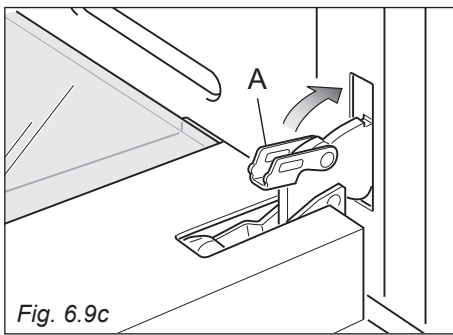

Fig. 6.9c
4. Fully close the levers "A" on the left and right hinges, as shown in the figure 6.9c.